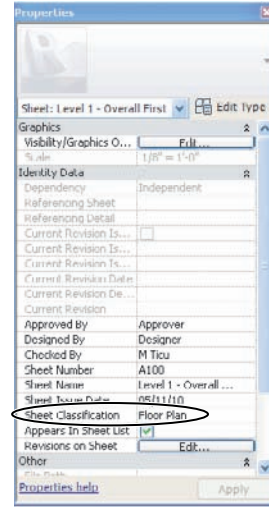

Figure 14.25
5. In the Properties palette under the Identity Data section, you will see your newly created parameter called Sheet Classification. Enter Floor Plan as the value, and click OK (Figure 14.25).